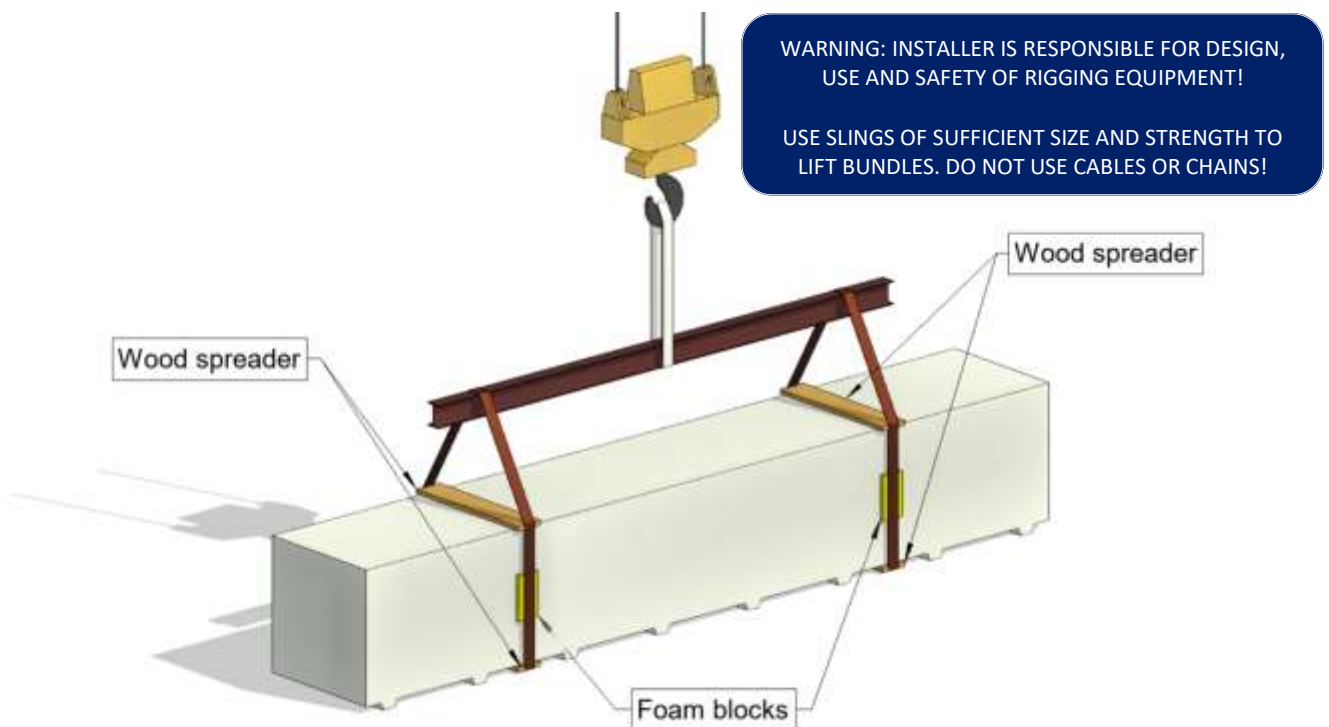

Fig. 4.12
4.11 Place foam blocks on the sides of bundles at all sling locations as shown in figure 4.12.
4.12 Bundles under 1800 kg and less than 13 m may be lifted as shown in figure 4.12.